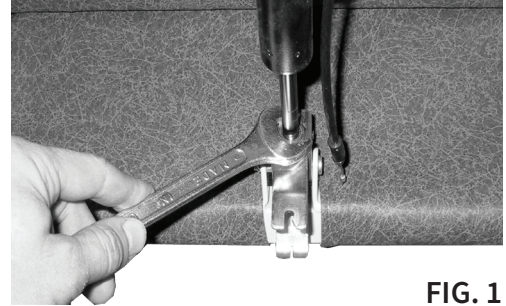

FIG. 1
1. Lock casters (refer to operating instructions). Remove cable from operator and loosen 11/16" hex nut on top of operator (FIG. 1).